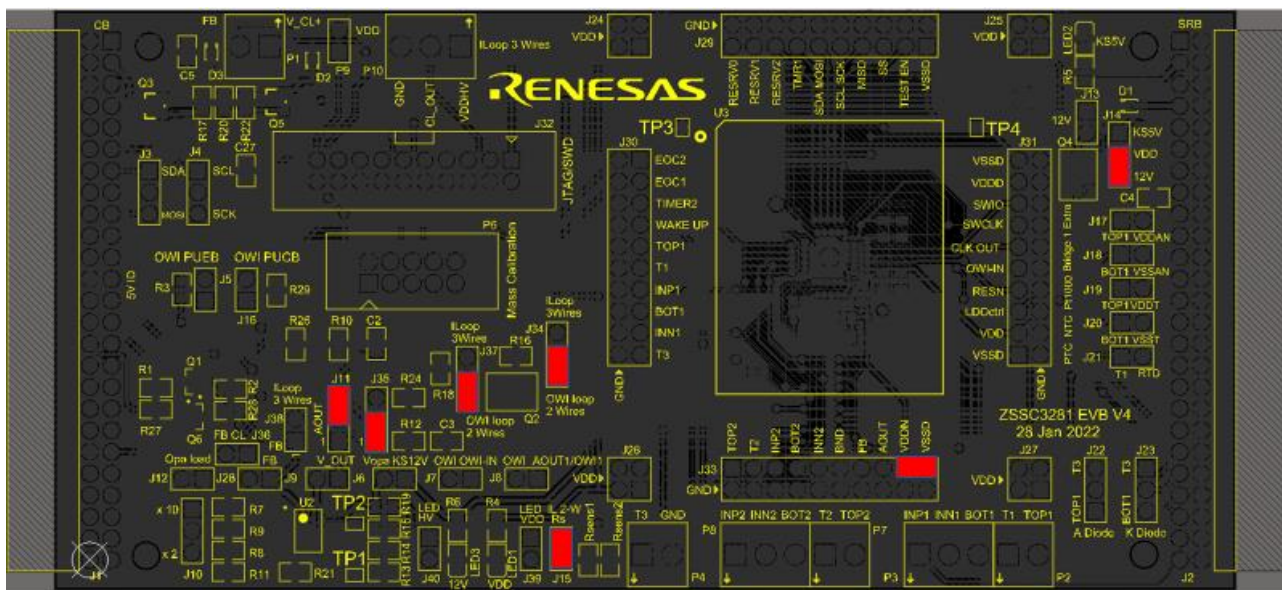

Figure 124. 2-Wire Current Loop Jumpers
- Ensure that VDDN is shorted to GND (J33) as displayed in Figure 124.